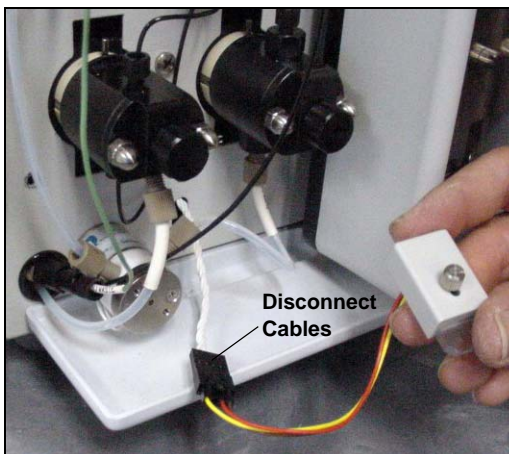

Figure 5-19. Leak Sensor Cable
5. The cable attached to the leak sensor is connected to a matching cable inside the ICS-1000. Continue pulling the cable until the connectors for the two cables are outside of the panel (see Figure 5-19).